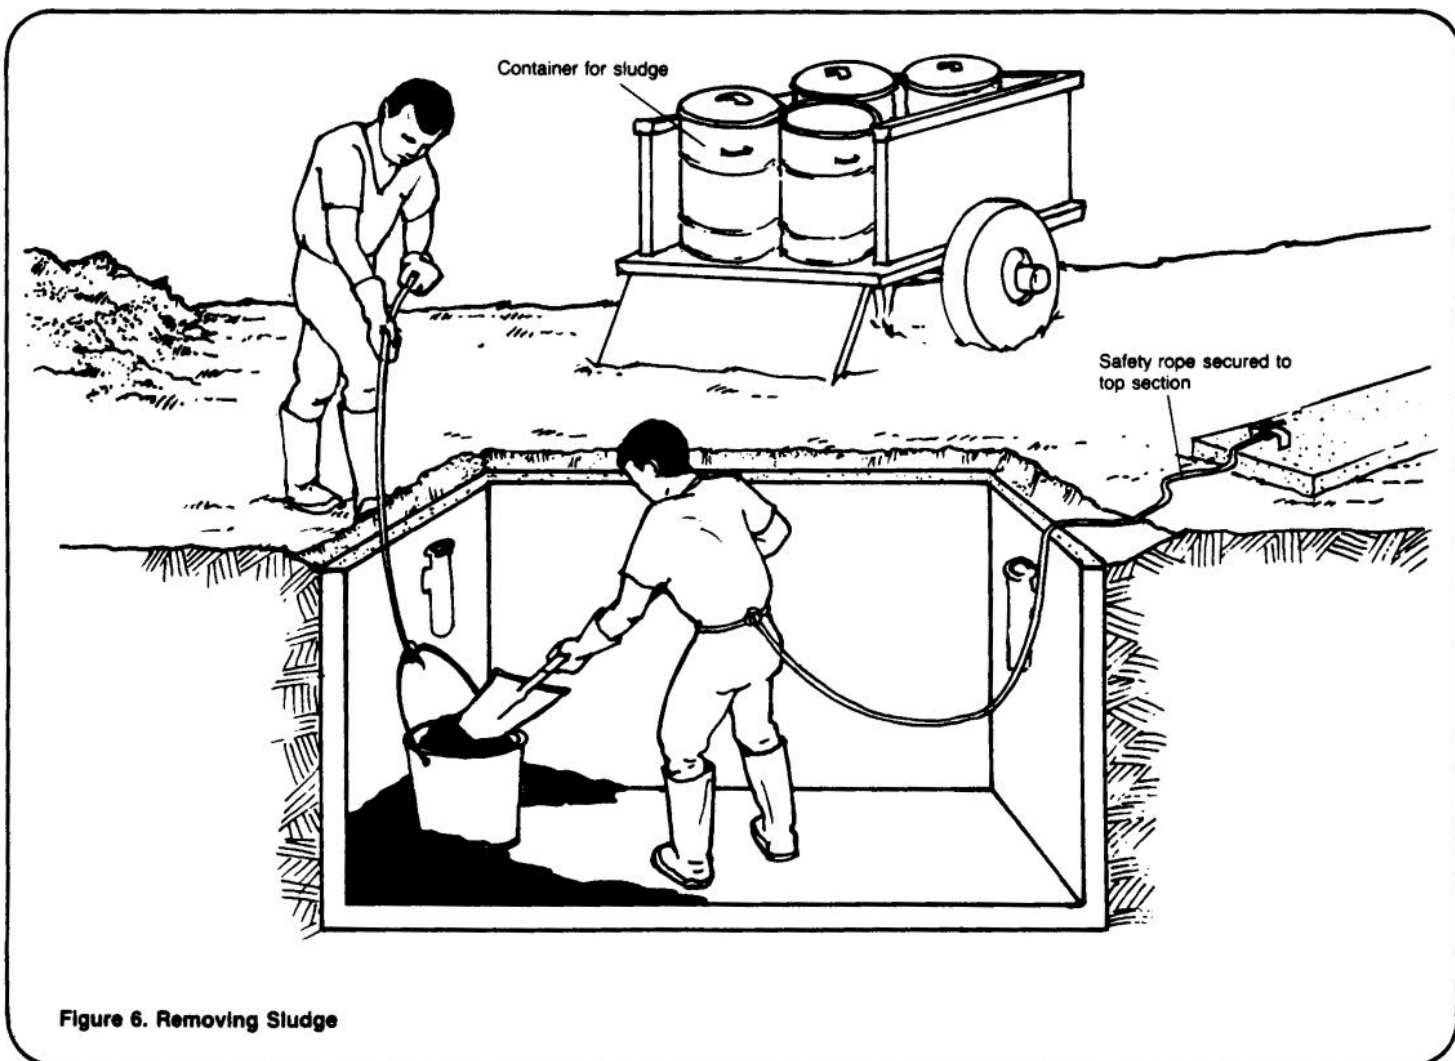

Figure 6. Removing Sludge
5. When no more septage can be dipped out with the bucket, it is necessary to enter the tank. Wear a safety rope held by an assistant standing outside the tank or tied to a section of the top that has been removed. Using a scoop shovel, remove sludge from the bottom of the tank as shown in Figure 6. It may be convenient to empty sludge into a bucket tied to a rope, and have a worker raise the bucket out to the tank and empty it into a container.